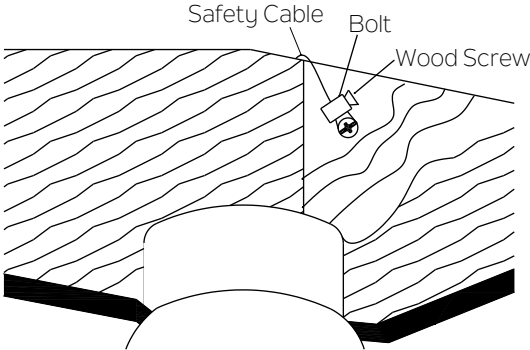

Fig. 11
Step 2. Insert the safety cable through the mounting bracket and one of the holes in the outlet box into the ceiling. Adjust the length of the safety cable to reach the screw and washers by pulling the extra cable through the cable clamp until the overall lenght is correct, put the end of the cable back through the cabel clamp, forming a loop at the end of the cable. Tighten the cable clamp securely. Now, put the loop in the end of the safety cabel over the wood screw and under the washer. Tighten the wood screw securely. (Fig. 11)